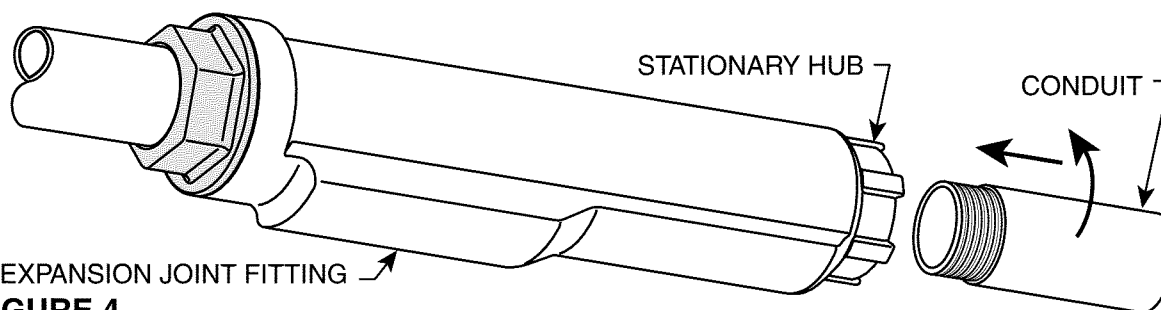

FIGURE 4
- 3) Thread the next piece of conduit into the stationary hub on the expansion joint fitting, as shown in Figure 4, and tighten with pipe wrench.